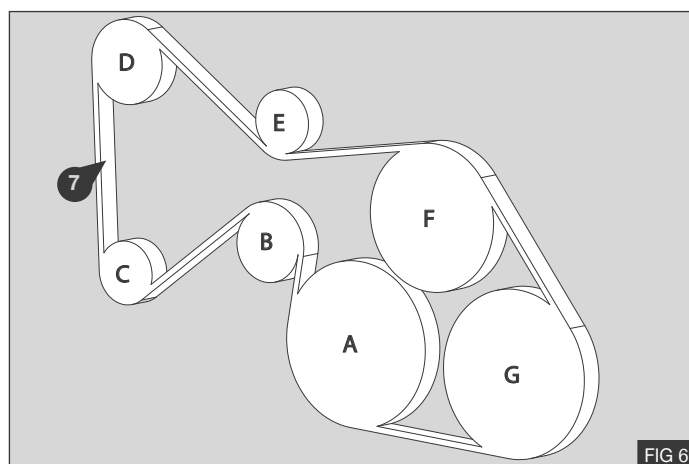

FIG 6
1. Install the supplied drive belt (7) - Fig 6.